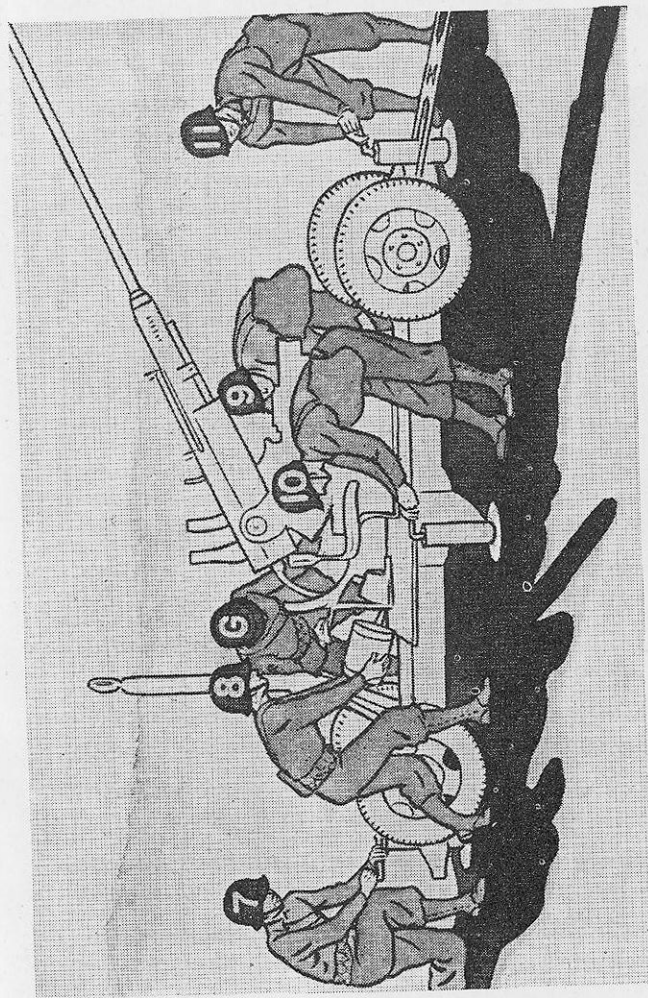

FIGURE 10.—GROUND JACKS.
- 8 removes lever and maul from gun platform, and maul from prime mover; places them in position convenient for use. (He places one maul near each end of chassis frame; if only one is available, he places it near front of chassis frame; takes post at slewing lever.) (See figs. 10 and 11 for positions at jacks.)